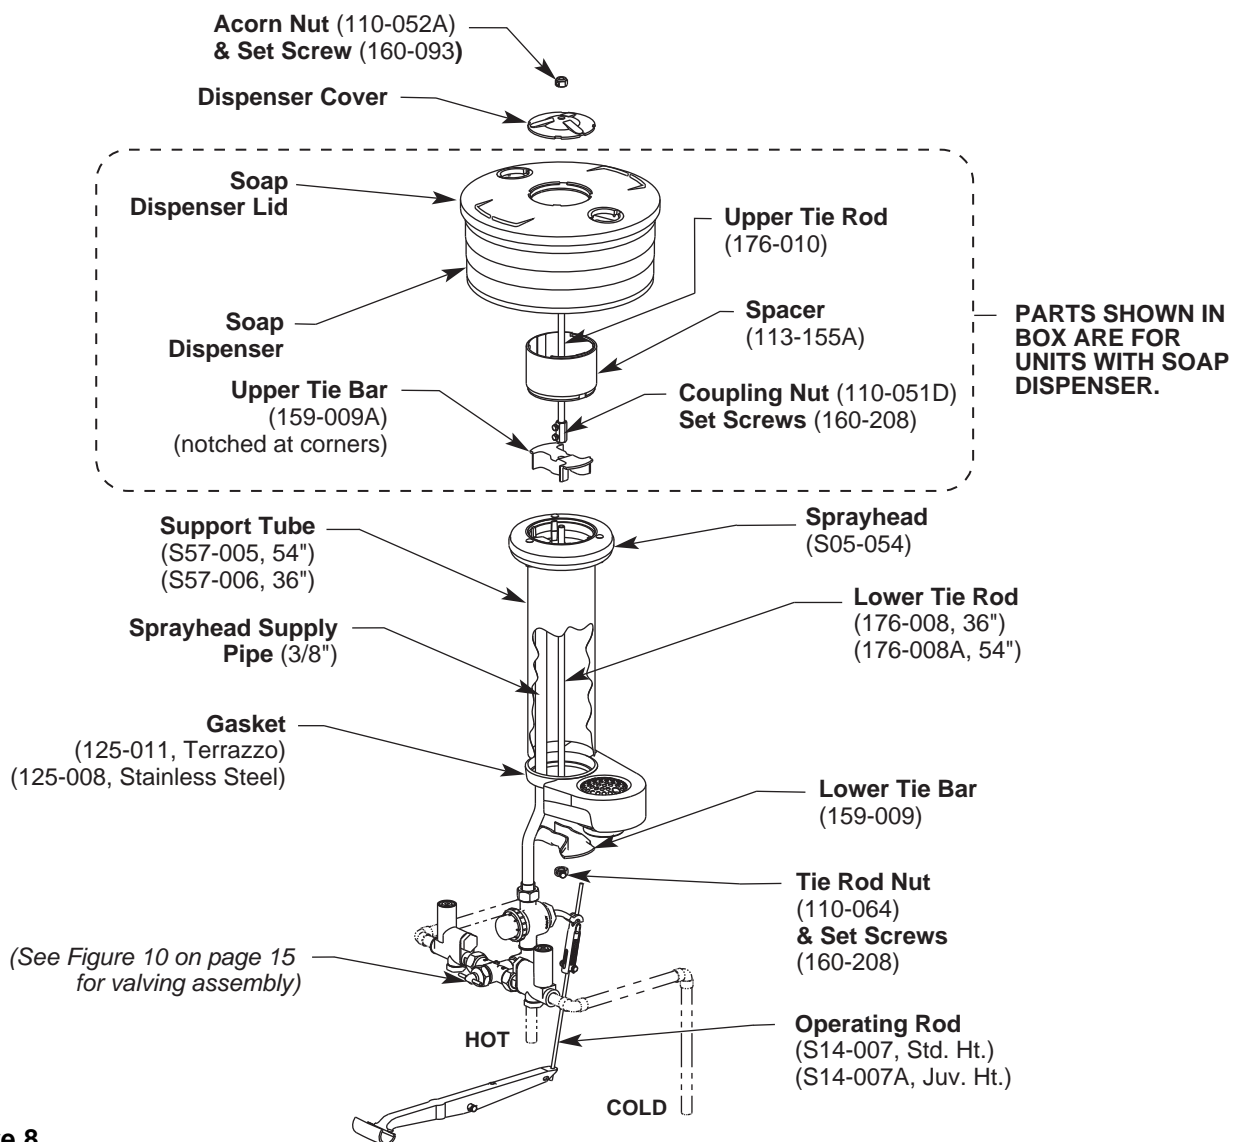

Figure 8
2. Using pipe sealant, connect the supply pipe to the sprayhead and place on top of the support tube as shown in Figure 8 on page 12.
2. Insert the tie rod assembly through the hole in the upper tie bar and secure with the lower tie bar, tie rod nut and setscrew from below (see Figure 8).
1. Place the dispenser cover on the sprayhead. Thread the acorn nut onto the lower tie rod, run the tie rod through the dispenser cover and secure from below with the lower tie bar, tie rod nut and socket setscrew (see Figure 8).